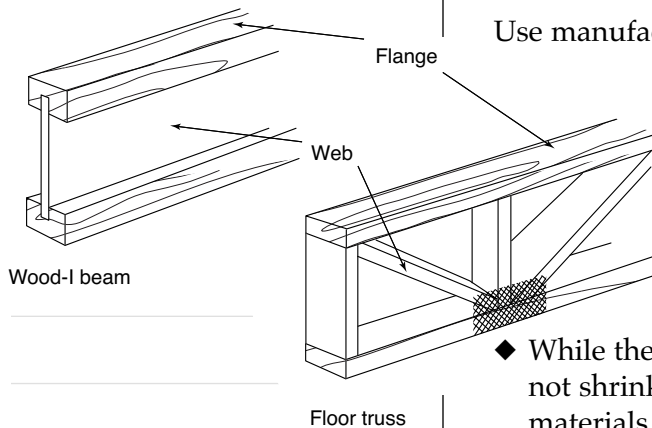

FIGURE 1
- ◆ Manufactured engineered members are constructed of dry, dimensionally stable materials. The flanges are constructed from dimensional lumber, and the webs are made of dimensional lumber, wood panels, or metal. Manufactured engineered members remain dimensionally stable as moisture content remains relatively constant (see Figure 1).